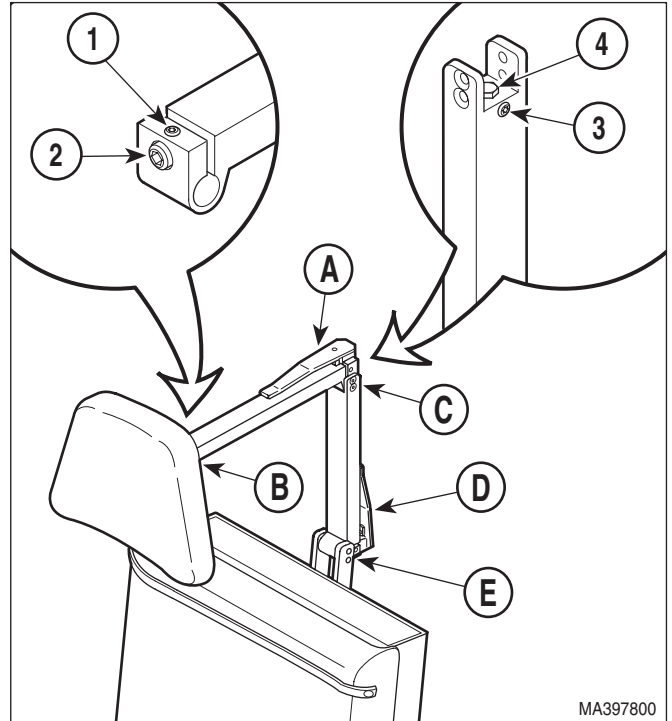

Figure 4-30. Headrest Adjustment
- (1) Unlock upper lock handle (A, Figure 4-30).
- (2) Loosen setscrew (1, Figure 4-30).
- (3) Tighten adjusting screw (2) slightly; then lock upper lock handle (A). Repeat this step until axis 1 (B) and axis 2 (C) have the strongest possible holding power, but operation of upper lock handle is not too difficult.
- (4) Tighten setscrew (1).
- (5) Unlock lower lock handle (D).
- (6) Loosen setscrew (3).
- (7) Tighten adjusting screw (4) slightly; then lock lower lock handle (D). Repeat this step until axis 3 (E) has the strongest possible holding power, but operation of lower lock handle is not too difficult.
- (8) Tighten setscrew (3).